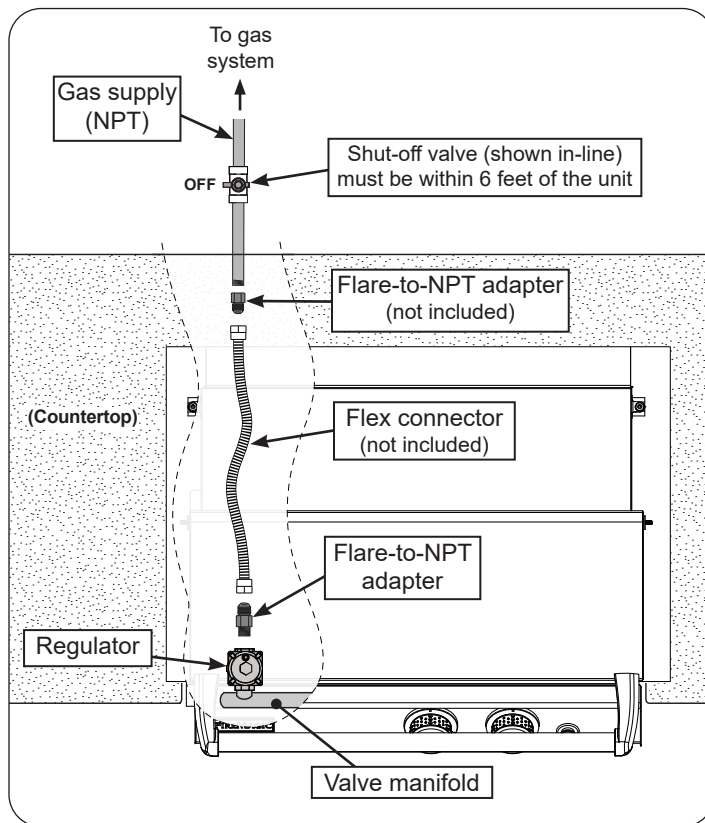

Fig. 25-1 Household L.P. & Nat. gas diagram
3. Locate the regulator found on the left side of the valve manifold. Connect a flex connector (not included) to the 1/2" flare adapter found on the regulator. Support the regulator adapter with a wrench to avoid applying excessive torque to the assembly while tightening. Do not use pipe compound on the flare fitting. See Fig. 25-1, A.
4. Route the other end of the flex connector to the gas supply (see Fig. 25-1, B).